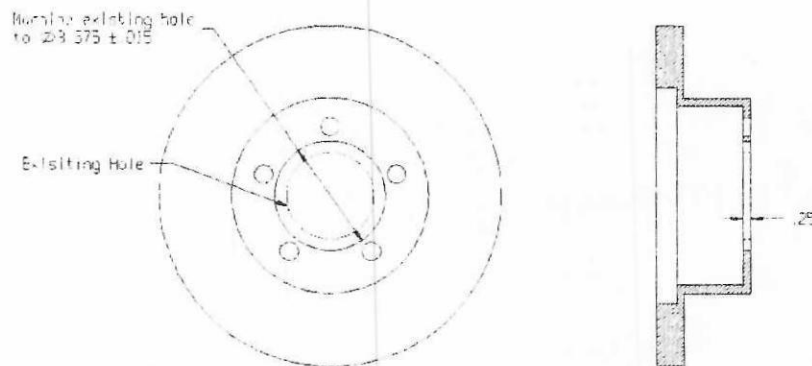

Figure 1. Rotor Machining Diagram
**Before starting, New "full-cast" rotors from 1990 or newer Wrangler must be used with this kit, this rotor (ITT #65225 or equivalent) has a .25 thick mounting flange. Do not use the factory style "composite" rotor (.125" thick flange). Rotor pilot hole must be machined to a diameter of $3.575 \pm .015$ to fit the wheel hub. (See figure 1, Page 1)*